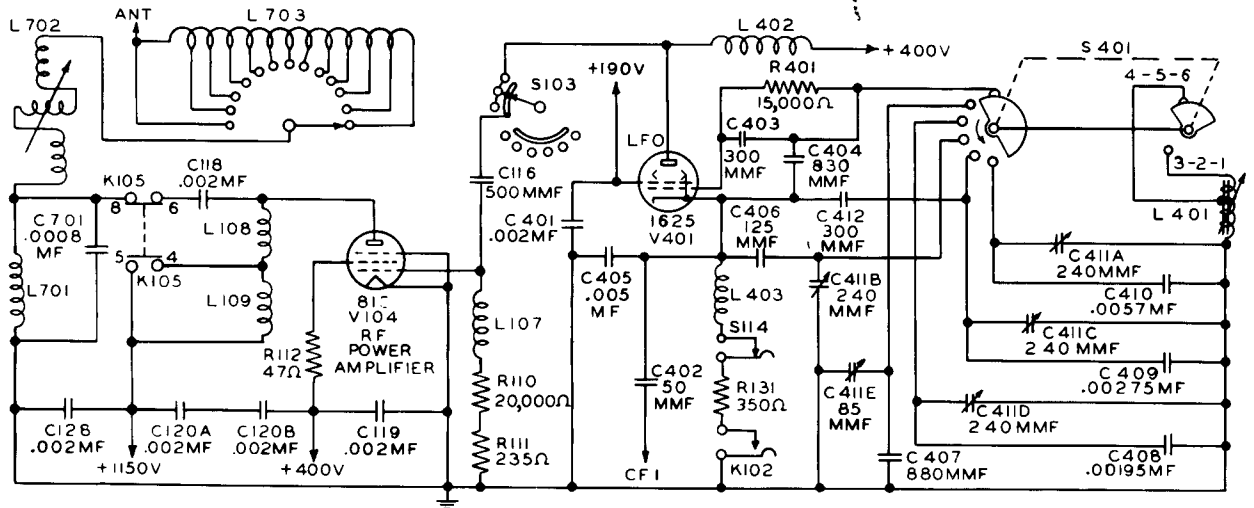

Figure 4-12. Low Frequency RF-Circuits in installations Using LFO O-16/ART-13
*a. LOW - FREQUENCY CIRCUITS.* — The LF oscillator which operates in the frequency range 200 kc to 1500 kc, employs a Type 1625 beam pentode tube, V401. This frequency range is covered in six bands. Refer to the oscillator calibration curves, Section VI, figure 6-1. for the frequency coverage of the individual bands. A combination of capacitive and inductive grid tuning is employed. The LF oscillator COARSE tuning switch, S401, varies the grid circuit capacity by increasing the number of padding capacitors connected in the circuit as the switch is rotated toward the lowest frequency position. Refer to figure 4-12. LF oscillator COARSE tuning switch S401 also changes the tap on the LF oscillator grid inductor L401 to vary the inductance in the grid circuit. Trimmer capacitors have been connected in parallel with the padding capacitors to provide means of fine adjustment of grid circuit capacity. These trimming capacitors are of the ceramic type and the capacity of each may be varied by rotating